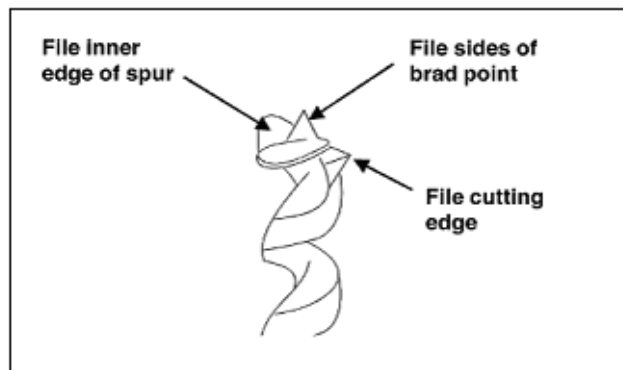

Fig 13
1. Sharpen the bit by using a small, smooth file, *following the original shape of the bit*. File the inside edge of the spur, the sides of the brad point, and the cutting edge inwards toward the flute of the bit. See Fig. 13. Do not file the outside edge of the spur as this will affect the diameter of the bit.